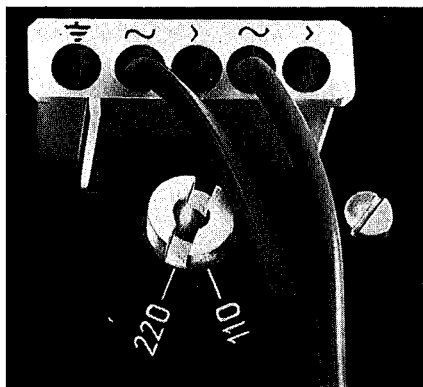

Fig. 2
B. No. 213 982; AMP-No. 160 565/1 (fig. 2)